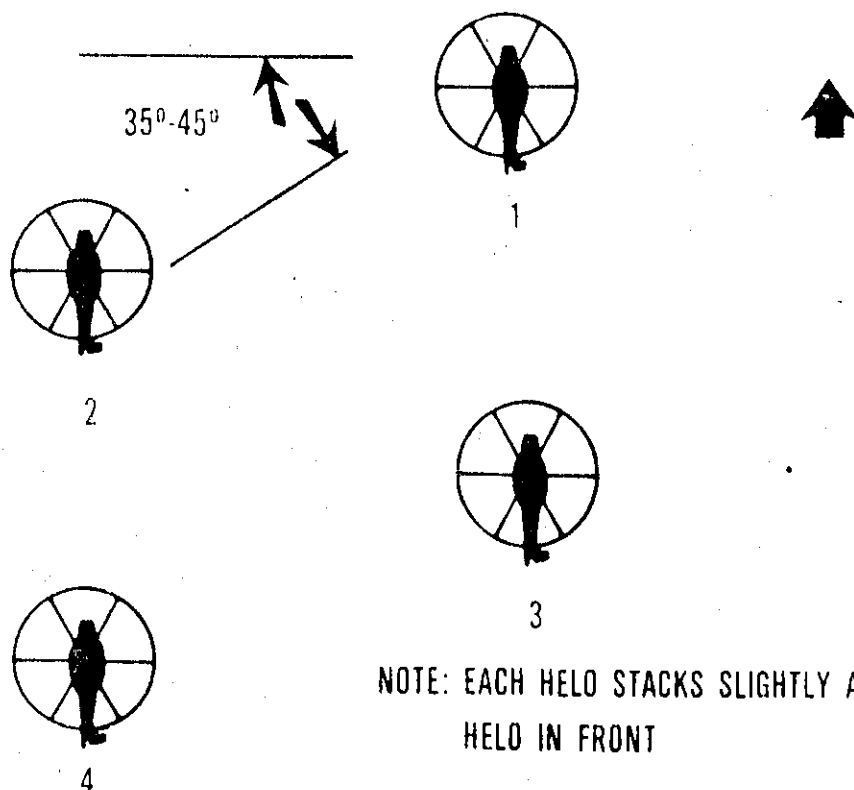

Figure 14-2. Staggered (Left) Formation.
b. **Staggered Formation.** (See Figure 14-2) A formation composed of two or more elements of two